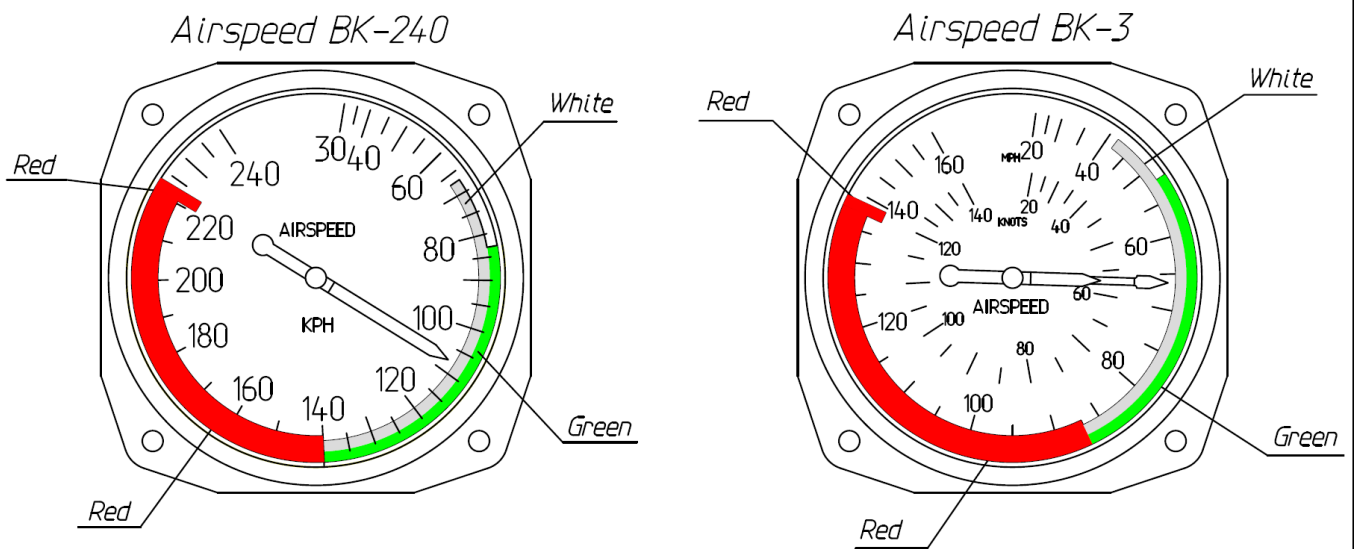

Fig. 1
2.1) Before replacing the windshield, put a temporary red speed limit sector $V_{ne} = 140$ km/h (87 mph) to the airspeed indicator (see Fig. 1) and mark this temporary speed limit in the relevant section of the POH (in any convenient way, for example, with a red pencil).